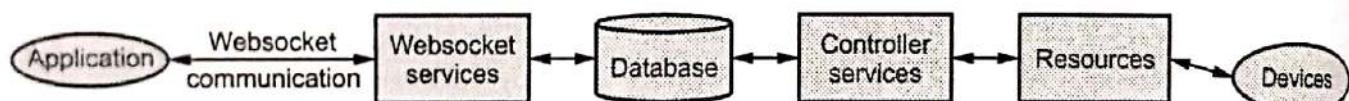

Fig. 1.6.1 IoT level 1
- Fig. 1.6.1 shows IoT level 1.